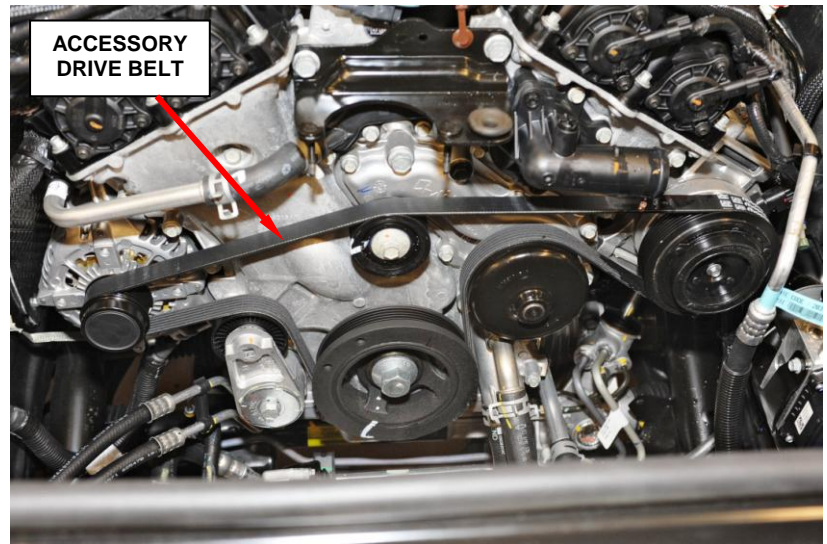

Figure 3 – Accessory Drive Belt
23. Remove and save the accessory drive belt (Figure 3).